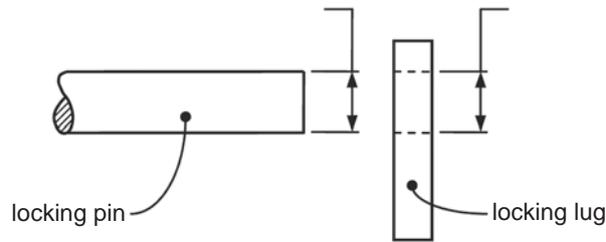

Figure 4
- ii. On Figure 4, show the tolerance that should be applied so that the locking pin and lug fit together correctly.